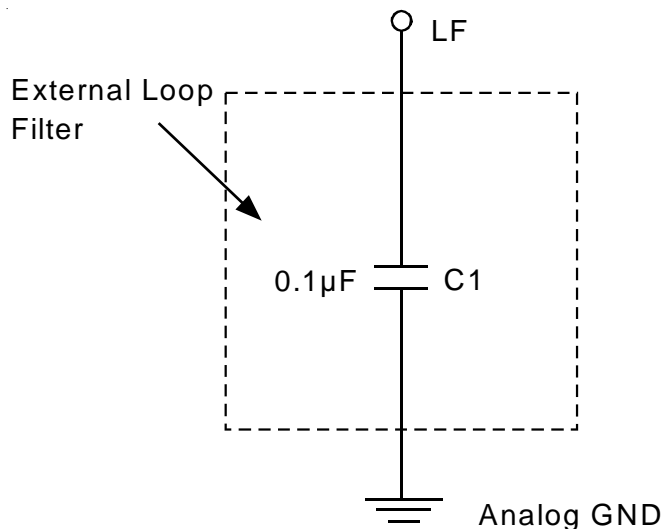

Figure 2. Loop Filter Connection
- Note 8 in "General AC Specification Notes" and Figure 2 describes this specification and its actual limits depending on the feedback connection.
- With VCC fully powered-on and an output properly connected to the FEEDBACK pin. tLOCK Max. is with C1 = 0.1μF, tLOCK Min. is with C1 = 0.01μF (where C1 is loop filter capacitor shown in Figure 2).
9. The tPD spec describes how the phase offset between the SYNC input and the output connected to the FEEDBACK input varies with process, temperature, and voltage. The phase measurements were made at 1.5V. The Q/2 output was terminated at the FEEDBACK input with 100Ω to VCC and 100Ω to ground. tPD measurements were made with the loop filter connection shown in Figure 2 below: